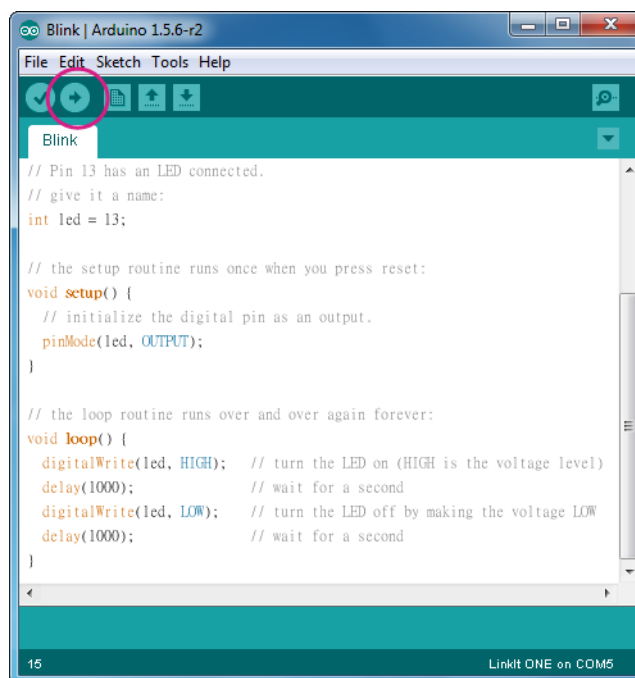

Figure 11 The upload button in toolbar of Arduino IDE
- 3 On the **File** menu, click **Upload**, or click the upload icon as shown in Figure 11.